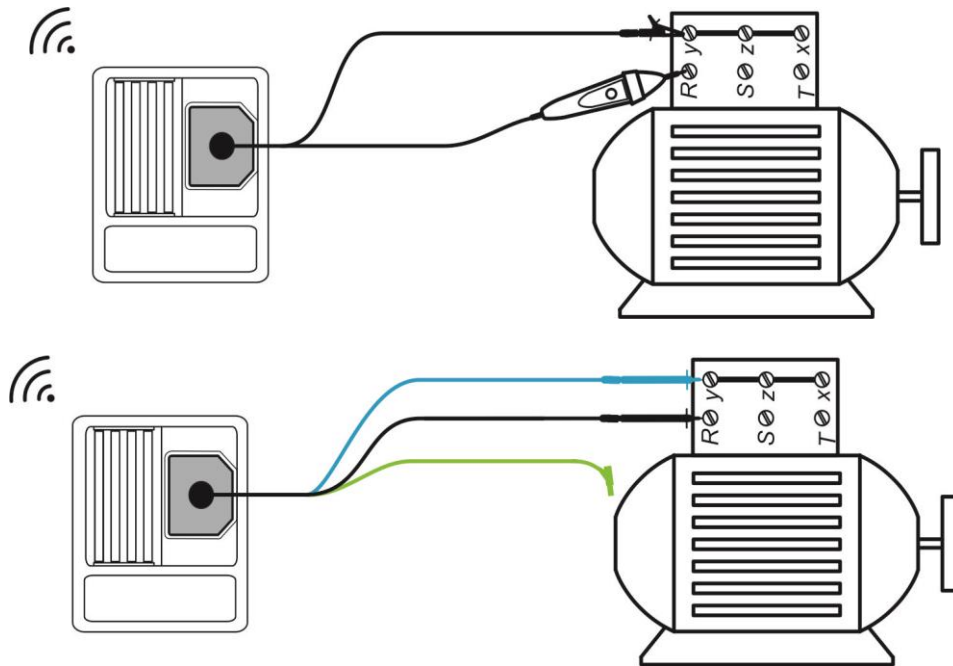

Figure 5.15: Tip commander and 3-wire test lead applications
- ❑ **Connect** test leads to the tested object (see Figure 5.15: ).